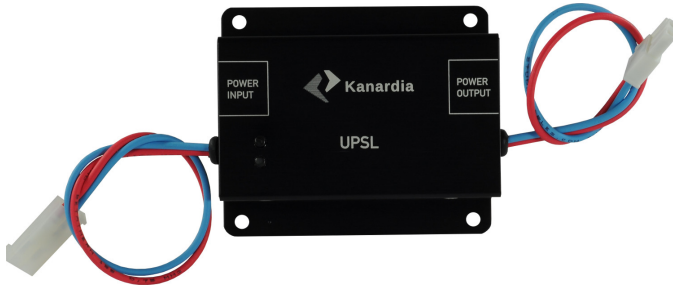

Figure 18: UPS-L – light Li-Po external backup battery.
- If your Horis does not have a backup battery, you can use our external backup battery module, P/N: UPS-L. This will make sure that there is enough voltage available for Horis. See figure 18. Please note that UPS-L has limited capacity and it can serve one Horis only.